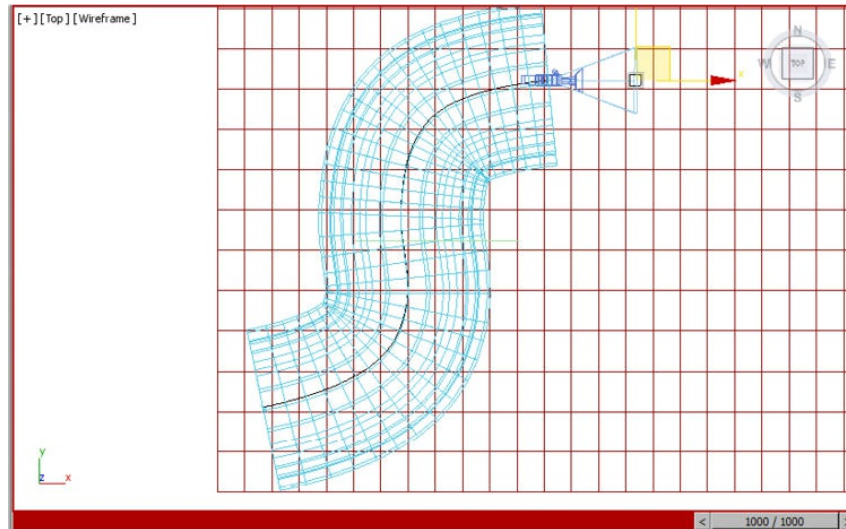
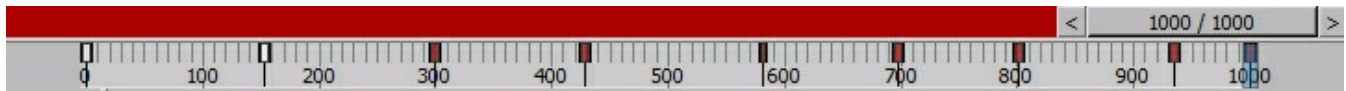

Figure 14-38 The position of the Camera001.Target at frame 1000
Figure 14-39 The track bar after creating the animation
20. Move the time slider to frame 1000 and align *Camera001.Target*, as shown in Figure 14-38. After creating the frame-by-frame animation, the frames are displayed in the track bar, as shown in Figure 14-39.